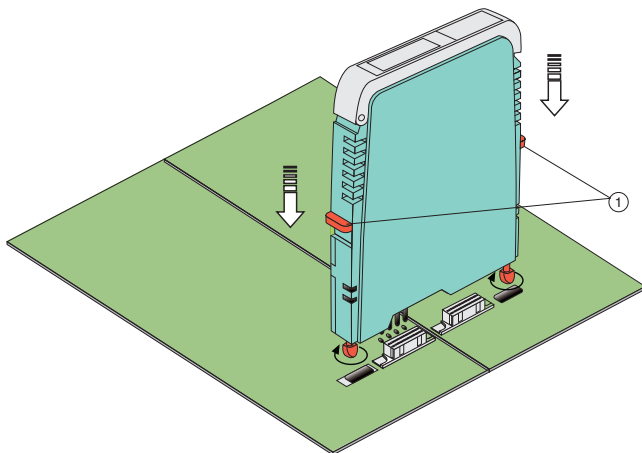

Figure 7 Proper mounting of an HiD Mux2700 module
- Ensure that the red Quick Lok Bar (1) is in the upper position
- Press the red Quick Lok Bar (1) down on either side of the device (see Figure 7)